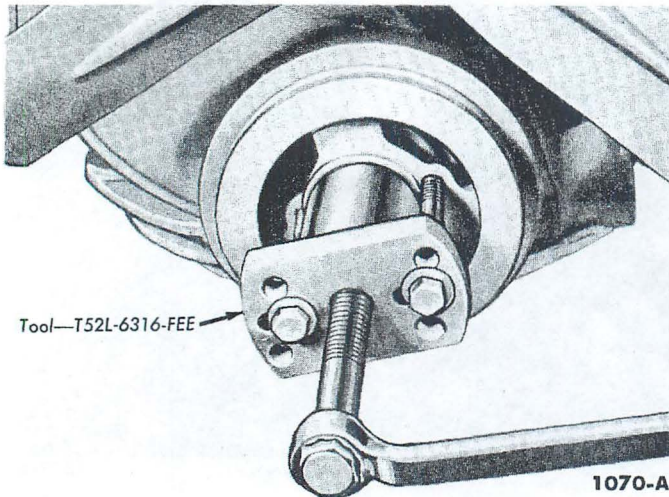

Fig. 22—Damper Removal
2. Remove the cap screw and washer from the end of the crankshaft, then remove the damper (Fig. 22).